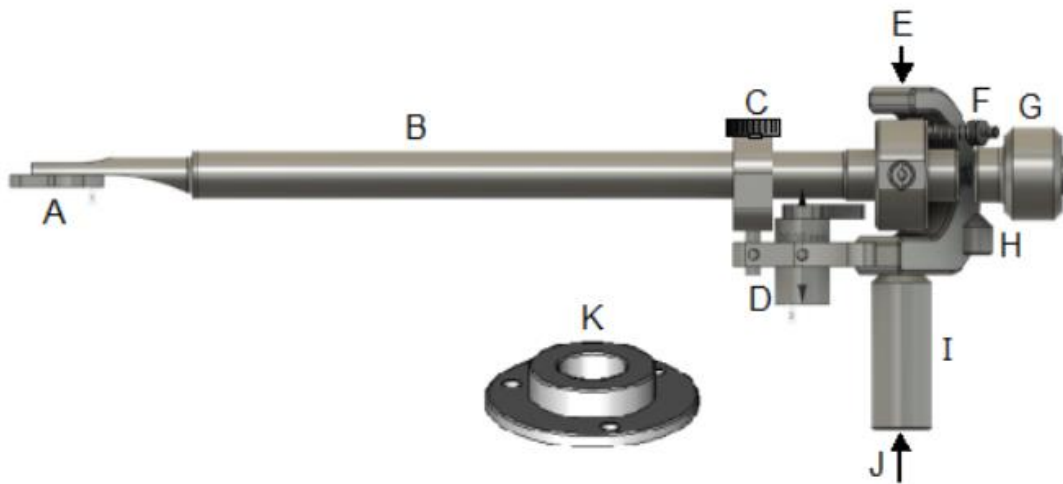
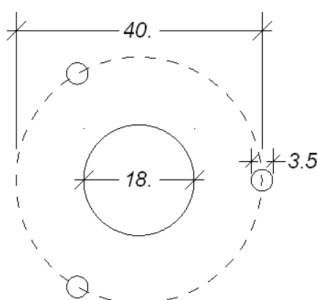

Figure 1: Side view and identification of the key tonearm parts.
Figure 3: The tonearm mounting hole and bolting pattern
The arm mounting hole diameter should be 18mm to 25mm – see Figure 3. Bolting pattern make 3 holes of 3,5mm equally distributed over a circle of 40mm diameter. Center of mounting hole to center of platter (pivot to spindle distance) should be 214mm (+/-1mm). Use 3mm attached metric M3 bolts or similar to attach the mounting cylinder (K on Figure 1) to the turntable plinth or the armboard. Carefully insert the tonearm vertical tube (I on Figure 1) into the hole in mounting cylinder and lock it using the small hex locking bolt located in the side wall of the mounting cylinder. After securing the tonearm with the bolt you can plug the cable connector into DIN 5P socket in the tonearm's vertical pipe (see J on Figure 1).
1. Unscrew the cartridge mounting plate (A on Figure 1) using hex key